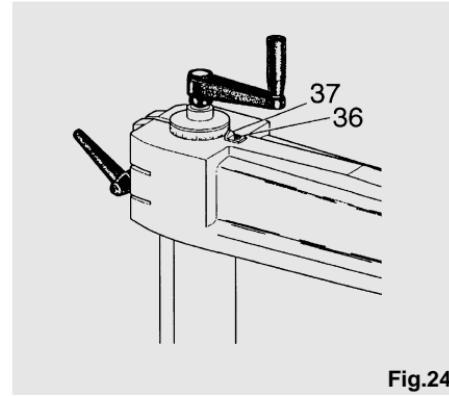

Fig.24
Once the perpendicularity of the arm to the abutting straightedge is obtained, proceed to the final setting of the arm index (see figure 24). Loosen screw (36) and move index (37) until it is aligned with the 0 position on the graduated nonius.